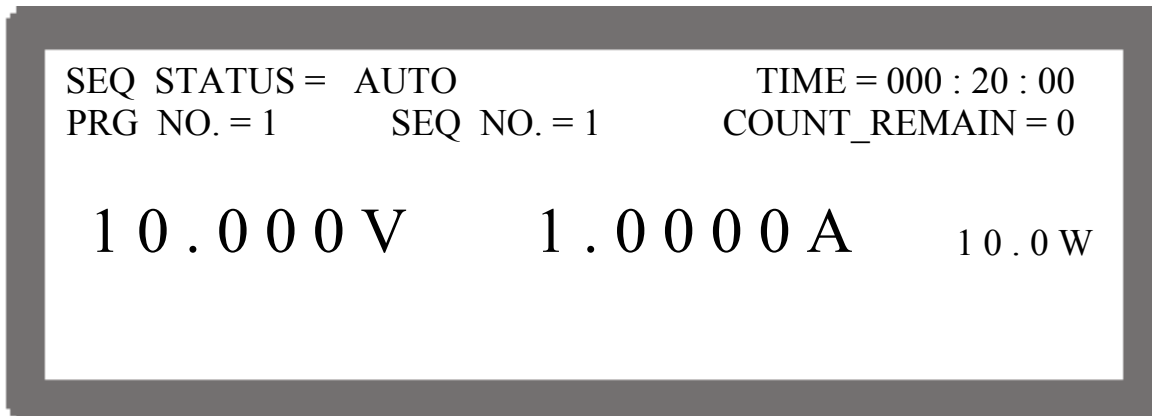

Figure 4-16
2. Press again to confirm the execution and go to MAIN PAGE as Figure 4-16 shows. To quit the execution, press will return to the standby MAIN PAGE.